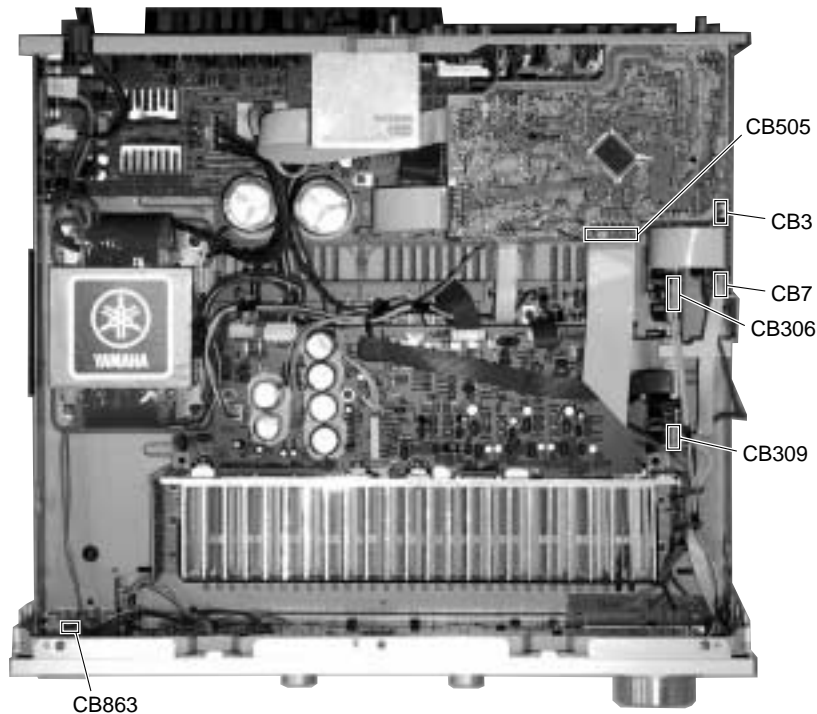

Fig. 7
- c. Remove connectors CB863 (3P), CB505 (21P), CB306 (8P), CB309 (5P), CB3(3P) and CB7 (6P). (Fig. 7)
- c. コネクタ-CB863 (2P)、CB505 (21P)、CB306 (8P)、CB309 (5P)、CB3 (3P)、CB7 (6P)を外します。( Fig. 7 )